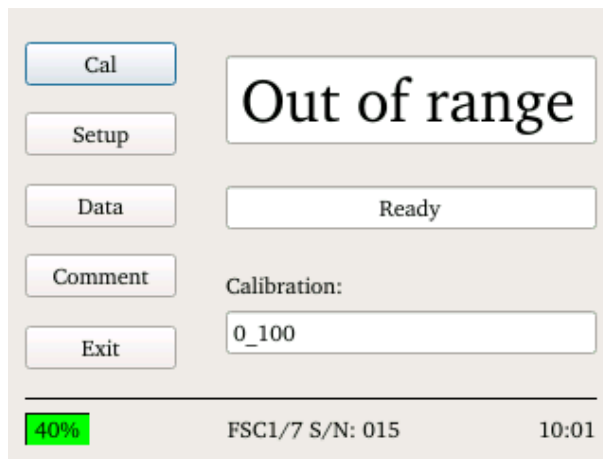
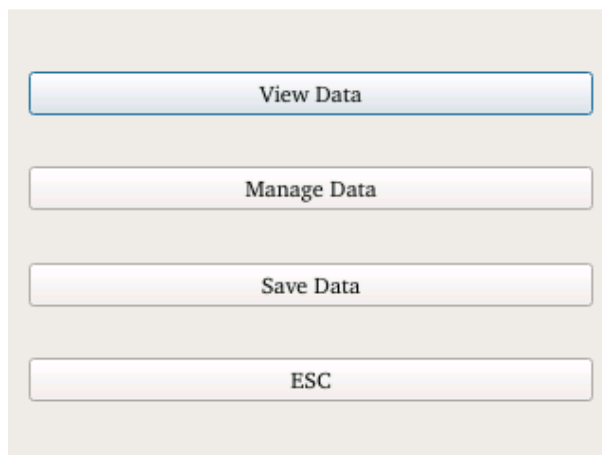

Figure 25: Out of range
Figure 29: Menu „Data“
- If the paint thickness is beyond the calibration range “out of range” is shown“, see Figure 25.
- The measurement data are saved in a text file, which can be opened by using the button “Data” (see Figure 25) on the touch screen or the up and down key and then press Enter. Then the menu of Figure 29 is opened.